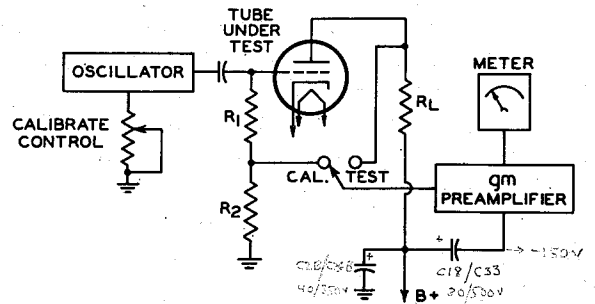
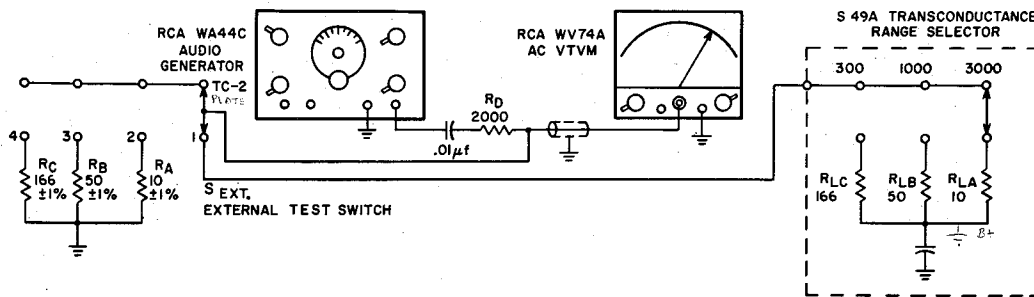

Figure 6. Simplified diagram of transconductance calibrating and measuring circuits
Figure 7. Test setup for determining the plate load resistance.
Figure 6 shows a simplified schematic of the transconductance measuring and calibrating circuits. These circuits include the tube under test, oscillator, precision voltage-divider network, a plate load resistor, and the gm preamplifier and meter.
Equipment required for recalibration includes an ac voltmeter, such as the RCA WV-74A or equivalent; an audio frequency generator capable of generating an undistorted sinewave signal of approximately 45 kcs, such as the RCA WA-44C or equivalent; the following resistors with values of: 10 ohms (R_A), 50 ohms (R_B), 166 ohms (R_C), 323 ohms, and 950 ohms, each having a tolerance of $\pm 1\%$ and a $\frac{1}{2}$ -watt dissipation; a 2200-ohm $\pm 10\%$ $\frac{1}{2}$ -watt resistor (R_D); and a 4-position single-circuit switch (S_{Ext}). The test switch must be of high quality and have a very low contact resistance. The 2200-ohm series resistor (R_D) reduces the shunting effect of the externally connected audio generator to a negligible value. Note, the following calibration procedures do not require a tube under test. Before proceeding with the calibration construct the test circuit as shown in Fig. 7.
To properly calibrate the transconductance (gm) measurement circuit of the WT-100A it will be necessary to disconnect the reactive component (L68), which is in parallel with the plate load resistors; thus for test purposes the plate load (R_L) is purely resistive. A simplified diagram of this circuit is shown in Fig. 6. The test setup for measurement of R_L is shown schematically in Fig. 7. The plate load is one of three values of resistance (R_{LA} , R_{LB} , R_{LC}) in the gm measurement circuit and is selected by the TRANSDUCTANCE RANGE SELECTOR switch on the WT-100A instrument panel. The effective resistance of these plate load resistors may be determined as follows:
3. Set the external test switch to position No. 1 as shown in Fig. 7 and the TRANSDUCTANCE RANGE SELECTOR switch to the 3000-micromho range. Set the WV-74A (ac voltmeter) for 0.03 volts full scale and the audio generator to provide a fre-